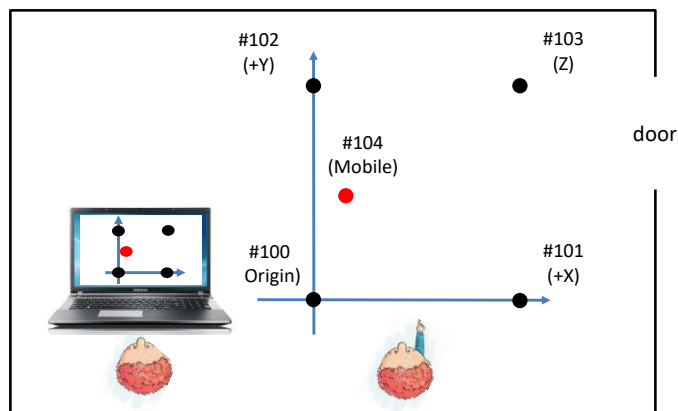
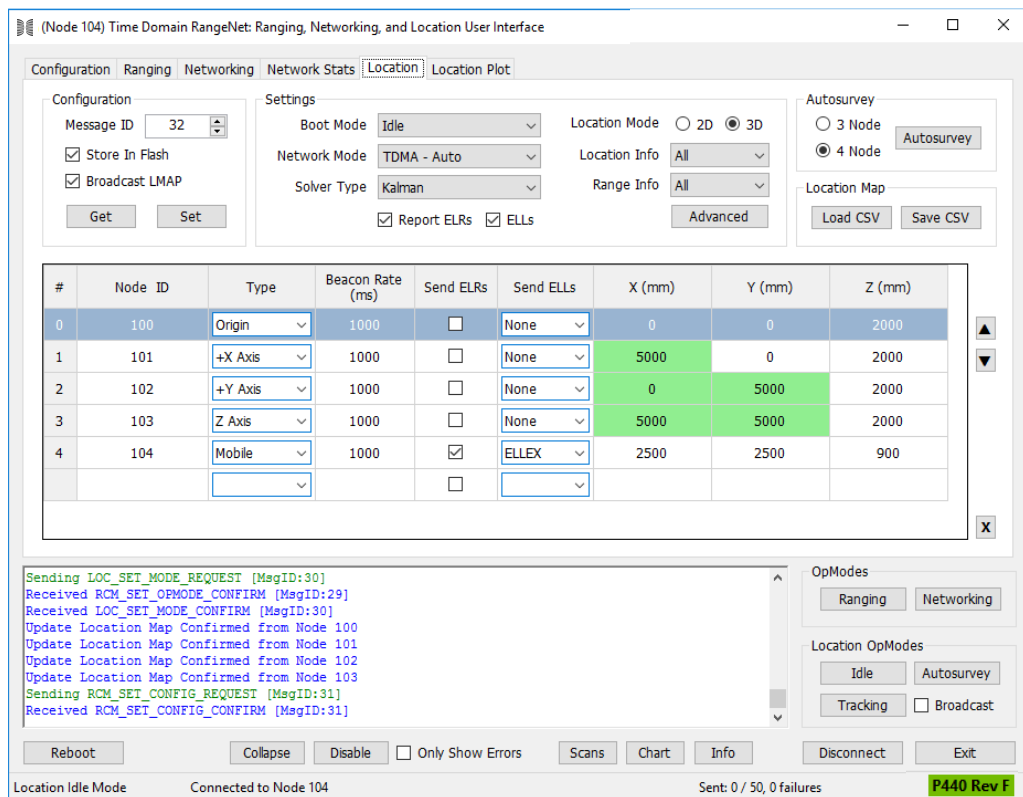

Fig. 20: Establishing a frame of reference
Fig. 21: Load the configuration files
3. **Position the radios.** Once the units have been configured, they are ready for Autosurvey. Autosurvey requires that you define a frame of reference so that the locations of the units can be displayed in a logical manner. In other words, locations which you see on the display should be consistent with what you see as you look across your field of view. An improper frame of reference would result in the display being rotated or inverted relative to reality. While this does not damage the equipment or generate improper data, it will make it more confusing to relate movement of the Mobile in real time with what appears on the screen. **Figure 20** illustrates how the units should ideally be positioned relative to the Host computer so that the view from the computer matches the field of view.
- Load the Location Map (LMAP) with initial locations.** Using the RangeNet GUI, connect to unit #104 and click on the Location Tab. See example in **Figure 21**. Note that the node numbers in the display match the positions shown in **Figure 20**. Note that the Network Mode shown is TDMA – Auto. This means that the system will operate using the PII and communications Code Channel shown on the Configuration Tab. The Mobile will compute locations based on the PII selected and operate at the fastest rate supported by that PII. For example, since the Configuration Tab has set the PII to 7 then the unit will range and compute the location once every 22 ms (~45 Hz rate). Note the Z column. For each of the units you will need to measure the distance from the floor to the middle of the antenna. (For this exercise it doesn't matter what point on the antenna you use as long as it is the same spot for all antennas.) Enter the values (in millimeters) into the Z column. When entering the Z values, do not set them all to the exact same value. Identical values can cause issues with the initializer. (Even a mm difference in Z is enough to avoid any issues.) If you accidentally add a fifth row it can be deleted by navigating over to the far-left column and then clicking the delete button. If you delete the table, then reload the configuration table (see **Step 2**) for just this unit.